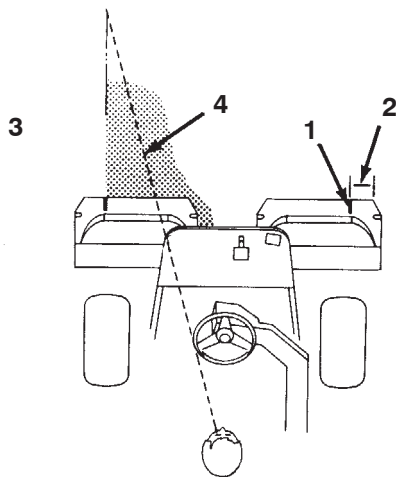

Figure 40
3. Overlap a minimal amount with the previous cut on return passes. To assist in maintaining a straight line across the green and to keep the machine an equal distance from the edge of the previous cut, establish an imaginary sight line approximately 6 to 10 ft. (1.8 to 3 m) ahead of the machine to the edge of the uncut portion of the green (Fig. 40). Some find it useful to include the outer edge of the steering wheel as part of the sight line; i.e. keep the steering wheel edge aligned with a point that is always kept the same distance away from the front of the machine.